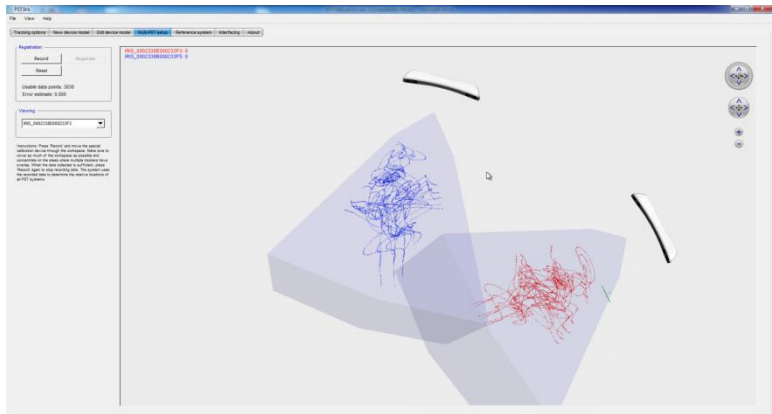

Figure 6.17. PST window in registration mode
- When enough data has been collected, press the record button again to stop recording data. The registration window shows the recorded data points and the field of view of the tracking units. Note that at this time, the position and orientation of the trackers may still be incorrect. Check that all tracking systems have a set of 3D points, drawn in a different color for each tracker (see Figure 6.17).